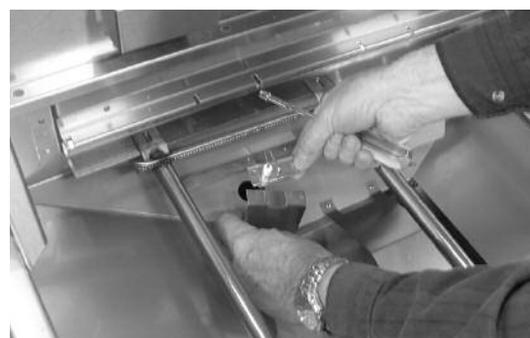

Fig 5
5. Lay ignitors on floor of grill. (See Fig. 5)